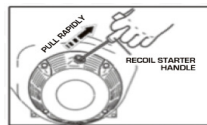

Fig 5
7.1.4. Pull the recoil starter until resistance is felt. FIG.5